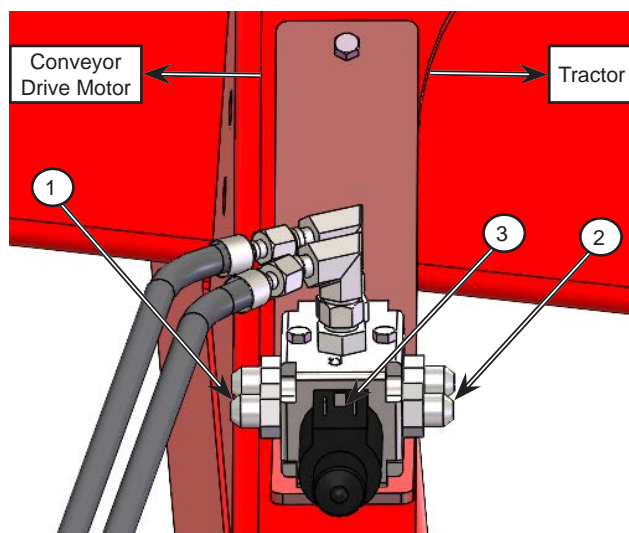

Figure 2.4: ESV connection points
7. The ports on the ESV that are on the side closest to the centerline of the machine (1) connect to the conveyor drive motor; see *Figure 2.4*.
- b. Connect these hydraulic hoses to the correct ports (1) on the ESV.
8. The P1 and P2 ports, on the opposite side (2), connect to the tractor; see *Figure 2.4*.
- b. Connect these hydraulic hoses to the correct ports (2) on the ESV.
9. Connect the selector valve electrical harness to the power connection (3) on the ESV; see *Figure 2.4*.